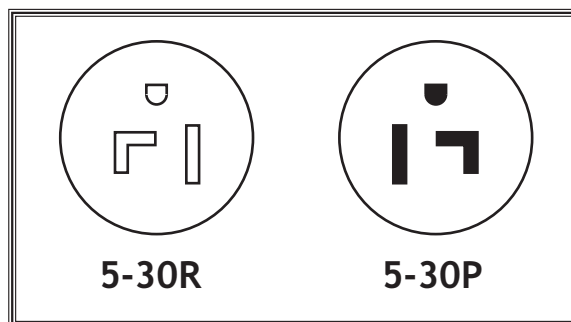

Figure 5. NEMA 5-30 plug and receptacle.
2. Install a NEMA 5-30 plug and receptacle (**Figure 5**).